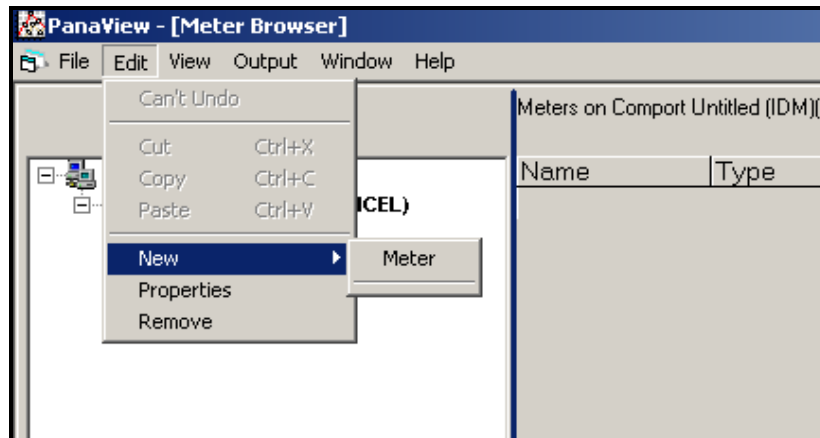

Figure 4: “*New*” Option in the “*Edit*” Menu
2. Click on the “*New*” option in the “*Edit*” menu (see Figure 4 below).